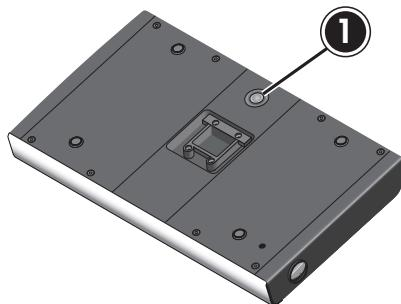

Fig. 56: On/off switch
2. ➔ Turn off the device via the on/off switch on its underside (Fig. 56/1).